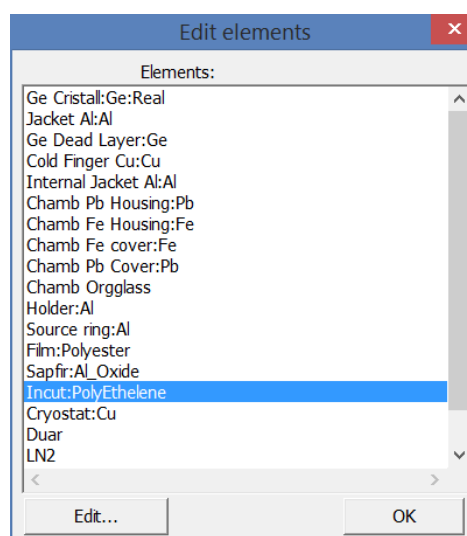

Figure 24. Window **Edit elements**
**Elements** - this item opens a window where the list of user-created geometric elements of the project is displayed (see Fig. 24).